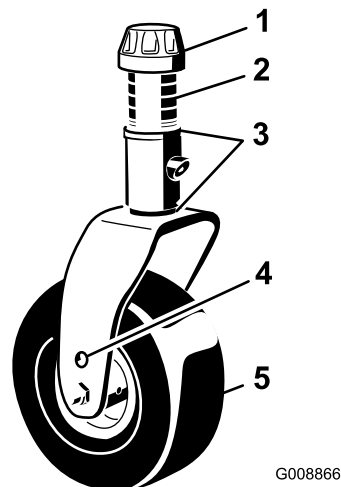

Figure 107
1. Remove the tensioning cap from the caster-spindle shaft and slide the spindle out of the caster arm (Figure 107).
Remove the tensioning cap and caster fork (Figure 107).